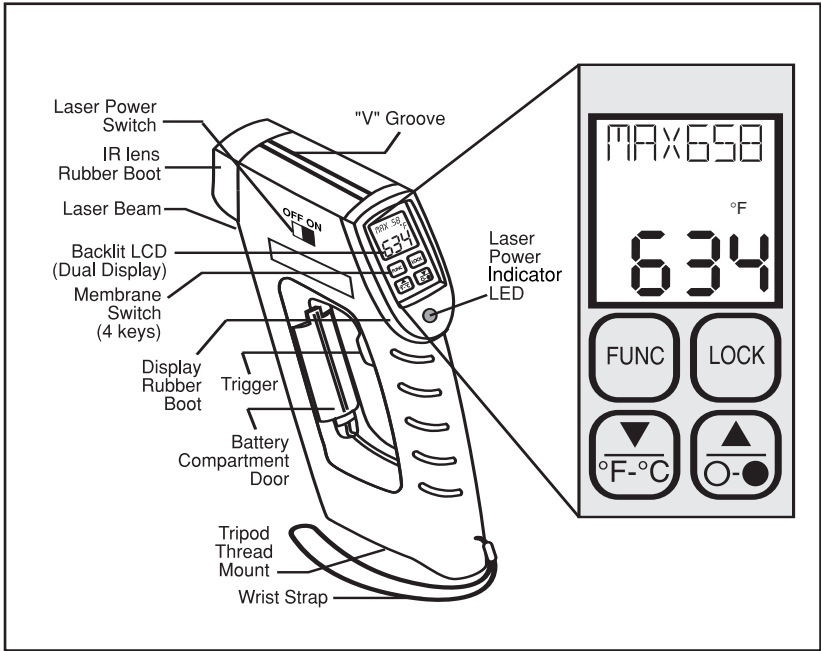

Figure 1-1. OS530/OS520 Series Handheld Infrared Thermometer Front View
- 1a. (Without the Laser Sighting) - Aim the thermometer at the target to be measured. Use the "V" groove (shown in Figure 1-1) on top of the thermometer to align the target to the thermometer's field of view. Look down the "V" groove with one eye only, in order to guarantee proper sighting. Pull and hold the trigger.